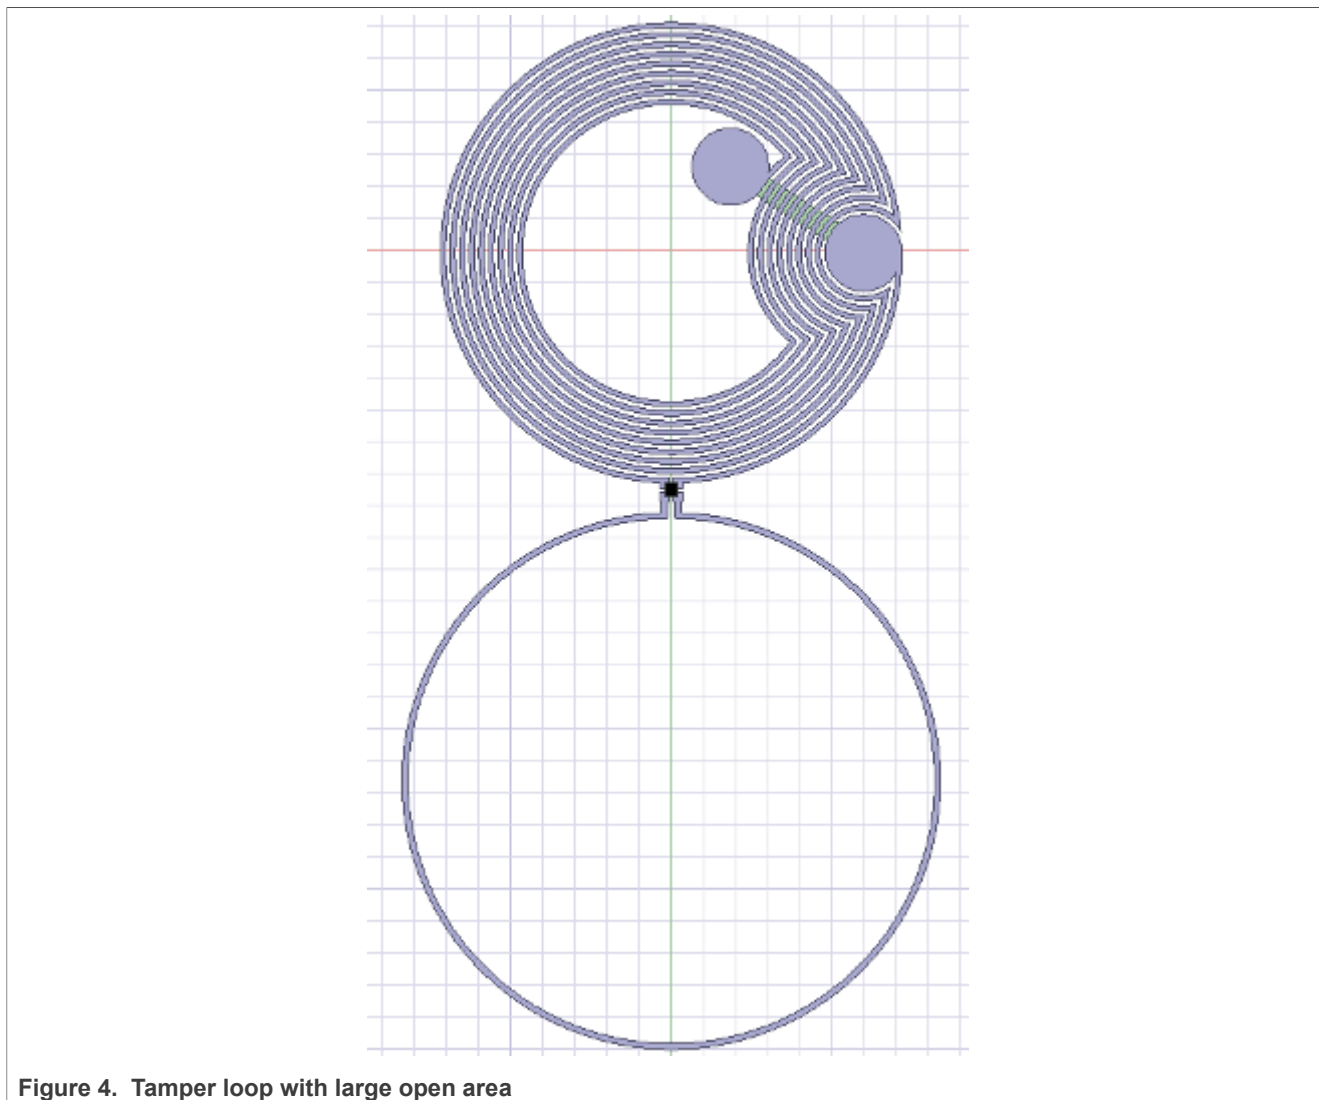

Figure 4. Tamper loop with large open area
- Avoid Tamper loops with large open areas (Figure 4).